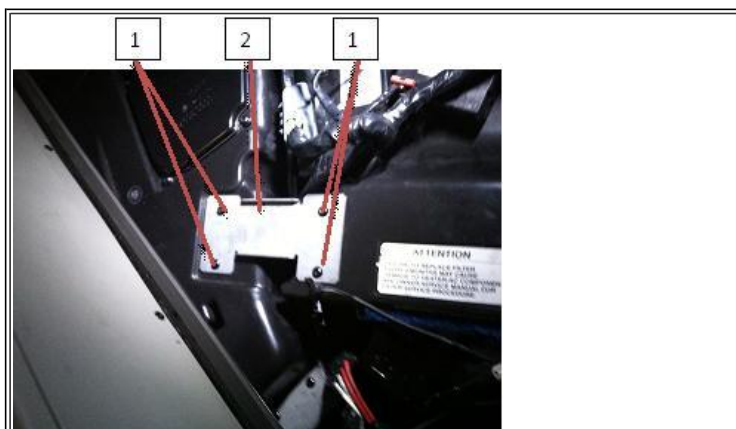

Figure 2: Top Support Bracket.
8. Remove four screws (Figure 2, Item 1) and top support bracket (Figure 2, Item 2) from vehicle.
32. Install top support bracket (Figure 2, Item 2) in vehicle with four screws (Figure 2, Item 1).